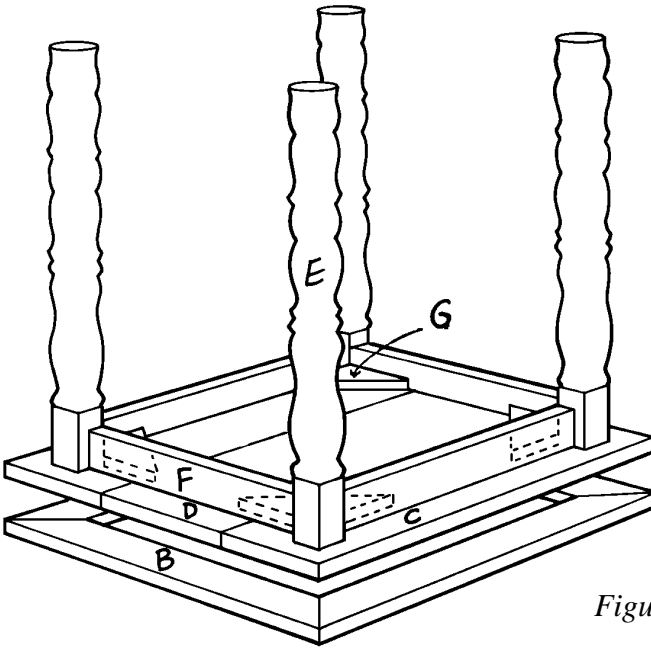

Figure 4
1. Before cutting the four rails (F) from 1 x 3 pine, measure the distance between each set of table legs. This measurement will vary, depending upon the diameter of the legs you purchased. Then cut each rail piece (F) to that length.
2. Glue one rail (F) between each set of two adjacent legs (E), as shown in *Figure 4*. Then insert 1-1/4" screws, spaced 6" apart, through the long bases (C) and short bases (D) and into the edges of the rails (F).
3. Cut four 10"-long corner supports (G) from 1 x 4 pine. Set the corner supports on their faces and miter the ends of each one at 45-degree angles.
4. To further reinforce the rails (F) and legs (E), glue a corner support (G) between each set of two rails (F), as shown in *Figure 4*. Insert 1-1/4" screws through the corner support and into the base frame.
1. Place the center top (A) and attached trim pieces (B) upside down on a level surface.
2. Center the base assembly over the top assembly, so that the sides of the assemblies are exactly flush (see *Figure 4*). Glue the assemblies together and insert 1-1/4" screws, spaced 6" apart, through the long and short base pieces (C and D) into the top assembly.